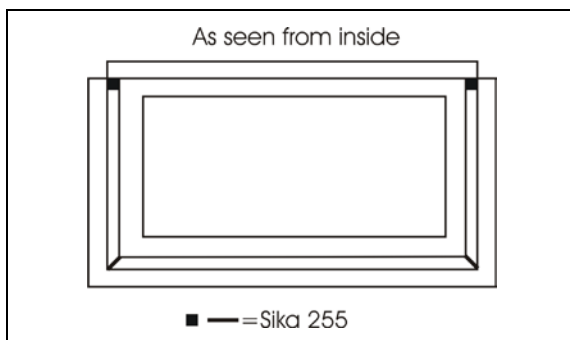

FIGURE 64 : SIKA 255 APPLICATION
- Apply Sika 255 in the upper and lower frame corner as per FIGURE 64.